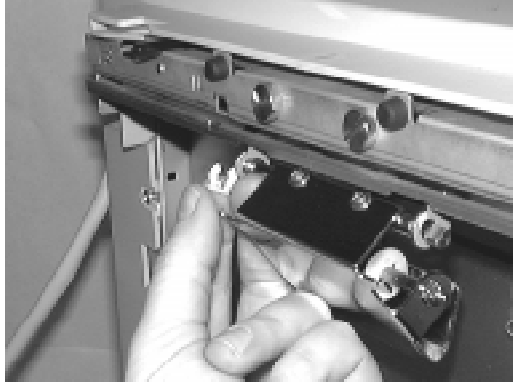

Figure 4-58 Removing Clip From Lower Roller Assembly
4. Locate the white plastic clip securing the lower roller shaft at the far end, shown in Figure 4-58. Remove this plastic clip.